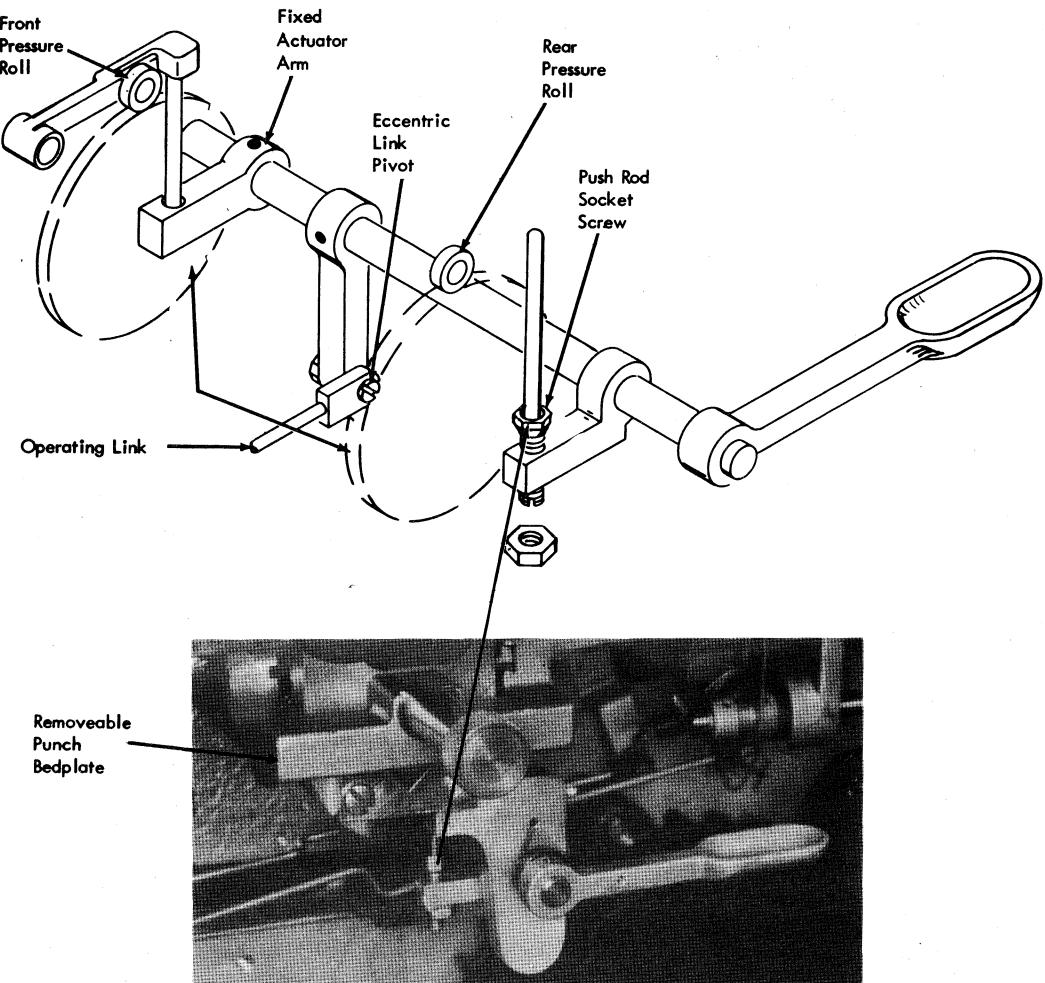

Figure 4-24. Punch Feed Pressure Roll Adjustment
2. At 345° to 350° , insert $1/2$ of a card (cut lengthwise) under front punch pressure roll and adjust eccentric link pivot until front pressure roll just tightens on card (Figure 4-24).